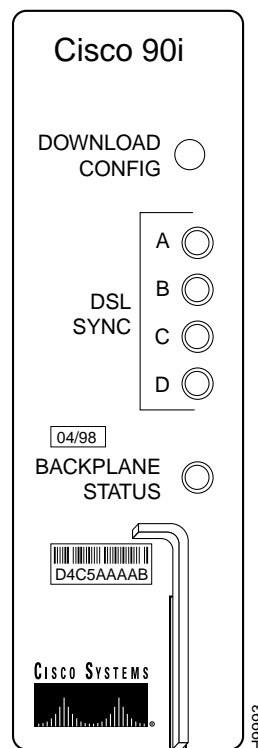

Figure 1 Cisco 90i IDSL Channel Unit
1.01.1 This practice document describes the Cisco 90i IDSL Channel Unit, as shown in Figure 1. Installation instructions and engineering references are included.
3.02 Front Panel LEDs and Controls—The Cisco 90i IDSL Channel Unit has five LEDs and a recessed pushbutton on the front panel (see Figure 1). Each of the four BRI loops has an LED to indicate that the loop is out-of-sync when on. The fifth LED indicates a problem with the backplane data format or signaling when on. The recessed pushbutton downloads configuration information to the Cisco 90i IDSL Channel Unit from a DSL Management Agent, if present. Table 1 lists the Cisco 90i front panel controls and indicators.